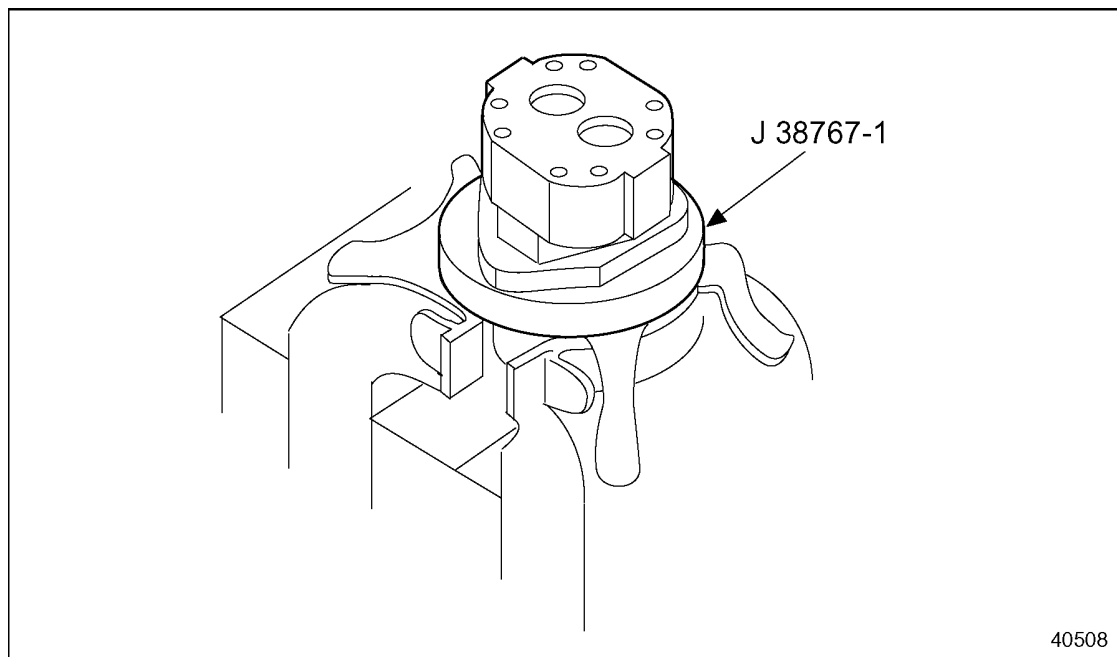

Figure 2-34 Fuel Pump Holding Fixture
8. Position pump on holding fixture, J 38767-1 part of J 38767-A, hub side down. See Figure 2-34.